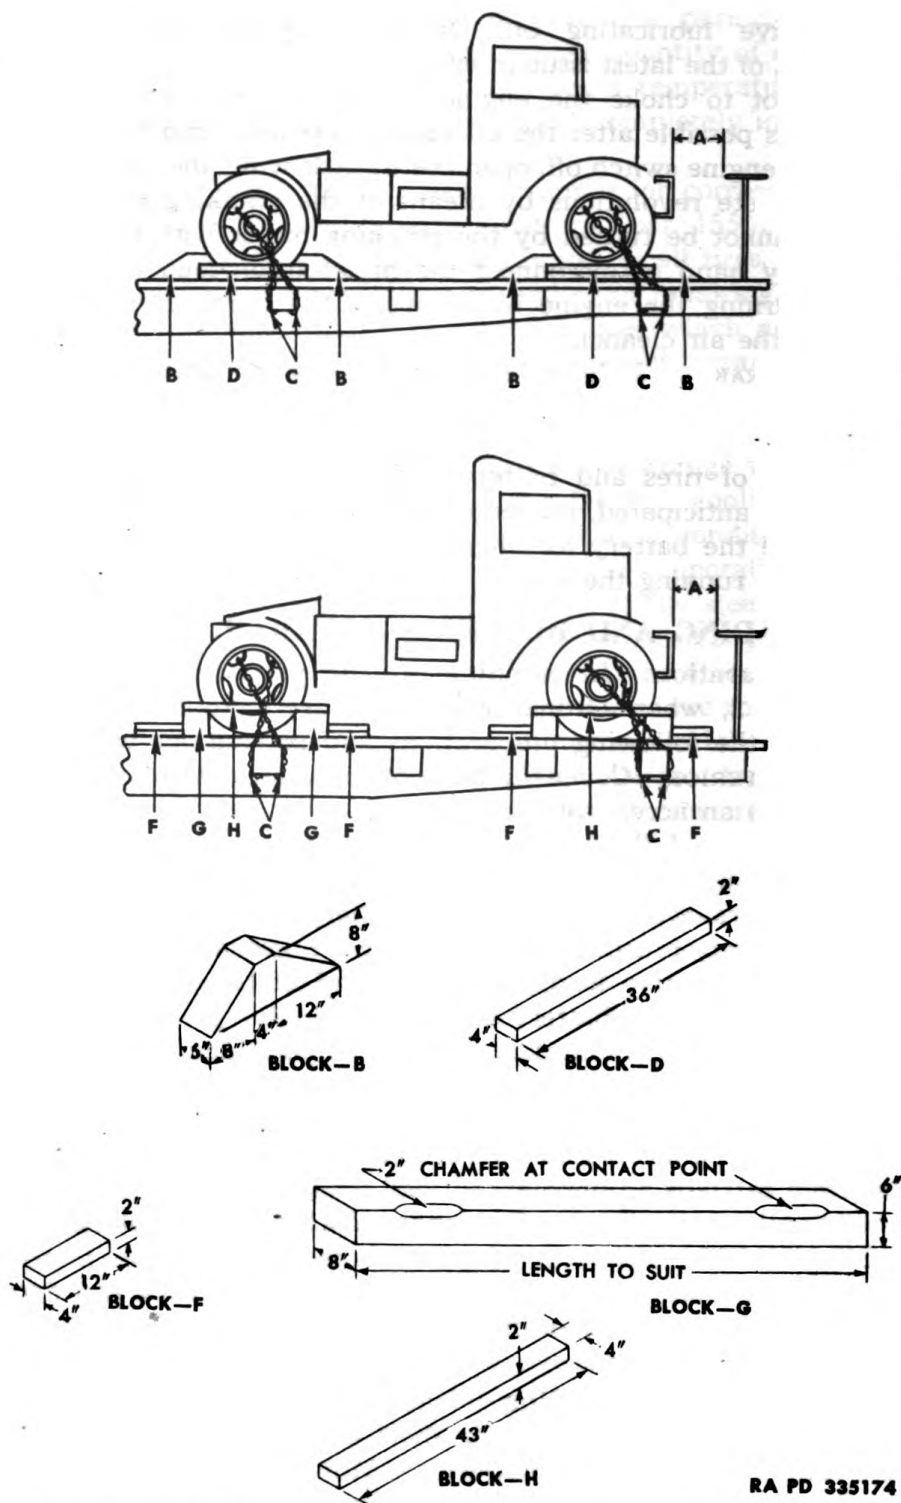

Figure 120 - Blocking Requirements for Securing Wheeled Vehicles on Railroad Cars
(4) **BRAKES.** The brakes must be applied and the transmission placed in low gear after the vehicle has been placed in position with a brake wheel clearance of at least 6 inches (fig. 120 "A"). The vehicles will be located on the car in such a manner as to prevent the car from carrying an unbalanced load.
(5) All cars containing Ordnance vehicles must be placarded "DO NOT HUMP".
(6) Ordnance vehicles may be shipped on flat cars, and door box cars, side-door box cars, or drop and gondola cars, whichever type car is the most convenient.
(1) **METHOD 1** (fig. 120). Locate eight blocks "B", one to the front and one to the rear of each wheel. Nail the heel of each block to the car floor using five 40-penny nails to each block. That portion of the block under the tread will be toenailed to the car floor with two 40-penny nails to each block. Locate two blocks "D" against the outside face of each wheel. Nail the lower block to the car floor with three 40-penny nails and the top block to the lower block with three 40-penny nails. Pass four strands, two wrappings, of No. 8 gage, black annealed wire "C" through tow hook at the front of the vehicle and then through a stake pocket on the railroad car. Perform the same operation at the rear of the vehicle passing the wire through the pintle hook. Duplicate these two operations on the opposite side of the vehicle. Tighten the wires enough to remove slack. When a box car is used, this strapping must be applied in a similar fashion and attached to the floor by the use of blocking or anchor plates. This strapping is not required when gondola cars are used.
(2) **METHOD 2** (fig. 120). Place four blocks "G", one to the front and one to the rear of each set of wheels. These blocks are to be at least 8 inches wider than the over-all width of the vehicle at the car floor. Using sixteen blocks "F" locate two against blocks "G" to the front of each wheel and two against blocks "G" to the rear of each wheel. Nail the lower cleat to the floor with three 40-penny nails and the top cleat to the cleat below with three 40-penny nails. Locate four cleats "H" on the outside of each wheel to the top of each block "G" with two 40-penny nails. Pass four strands, two wrappings, of No. 8 gage, black annealed wire "C" through tow hook (front) and also pintle hook (rear) as described in Method 1 above.